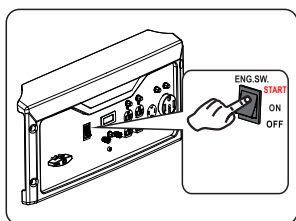

Fig 12 Electric Start
- For electric start, Push and hold the engine START/ON/OFF switch in the “START” position. Do not hold the START/OFF switch for more than 15 seconds. (See fig 12)